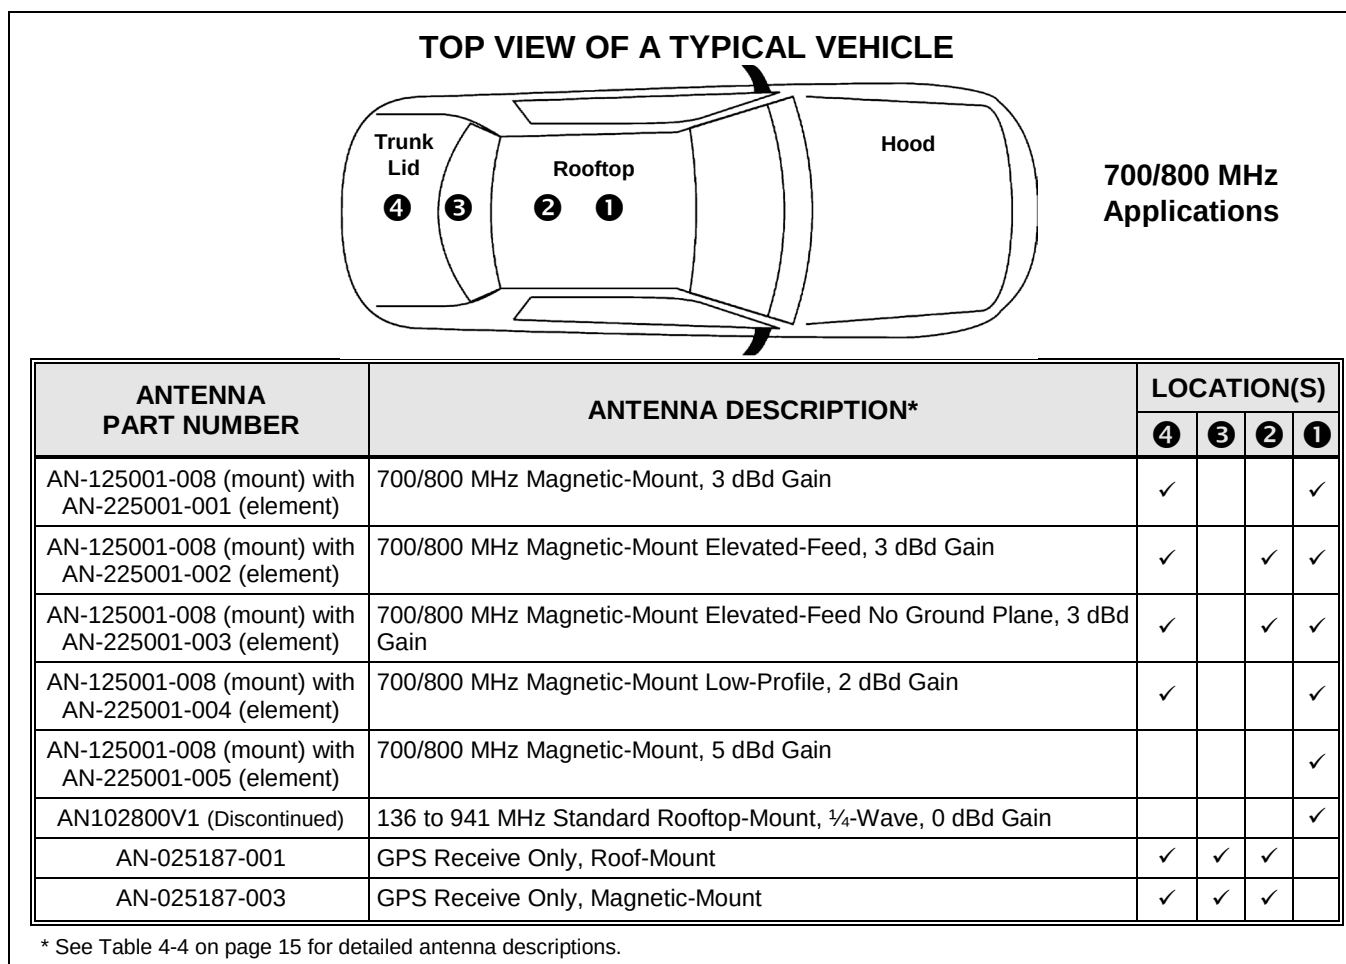

Figure 6-3: Recommended 700/800 MHz Antenna Mounting Locations with Antenna Part Numbers
- For a 35-Watt 700/800 MHz Radio: See Figure 6-3 (page 24)
Antennas must be mounted in one of four (4) possible locations on the vehicle. Figure 6-1 and Figure 6-3 shows the recommended locations and antenna part numbers. Also, see Table 4-4 for additional information. Always follow the antenna manufacturer's instructions when mounting an antenna.
Table 4-4 (page 15), Figure 6-1 and Figure 6-3 list the mobile radio antennas available for use with the respective radio. As presented in the previous section, various mounting locations exist. Optimal performance is achieved via a rooftop antenna mounted in the direct center of the motor vehicle's roof.